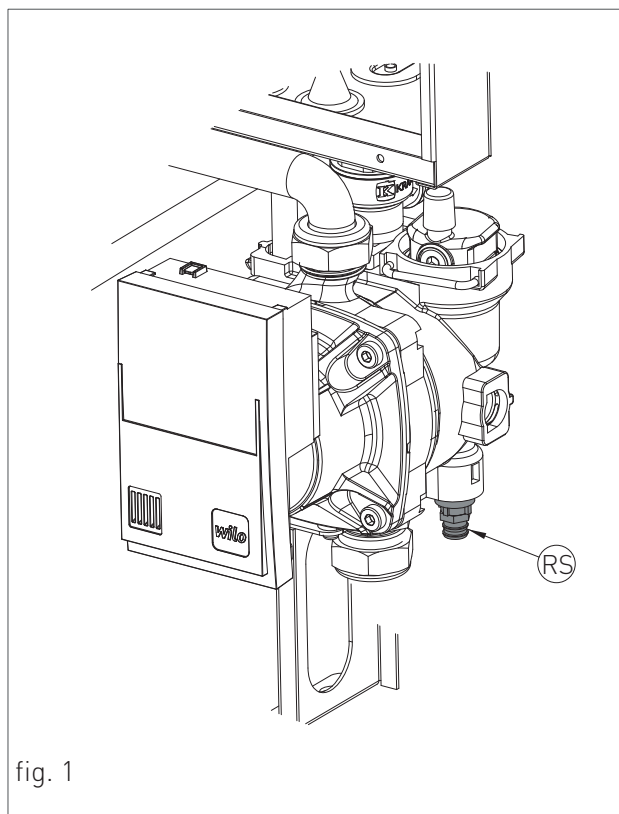

fig. 1
- › Follow the procedure described at chapter 'ACCESSING THE BOILER' and rotate panel '2' (fig 1);
- › turn the discharge tap of the system ‘RS’ (fig. 1);
In order to check the anode functioning it's necessary to open the cap 'B' (fig.1) situated on the top of the boiler.